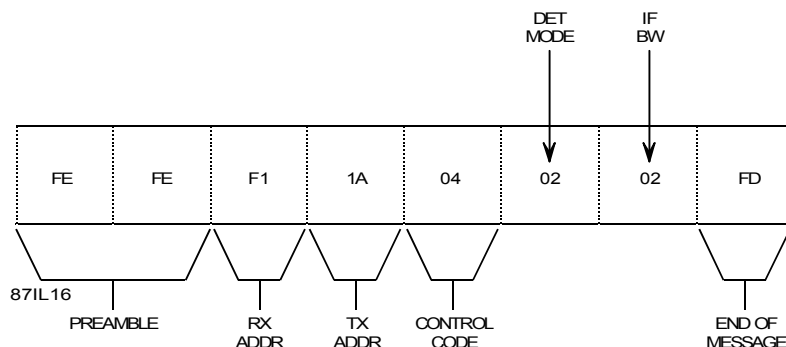

**Figure 5-10. Detection Mode/IF Bandwidth Command Format With Acknowledge**
**Figure 5-10** shows an example of the typical format for selecting the receiver's detection mode and IF bandwidth using control code [06]. This control code provides the same result as the [01] command described in **paragraph 5.8.5** except it requires an acknowledgment to the controller. For this reason it is the preferred method to change the IF bandwidth or detection mode.